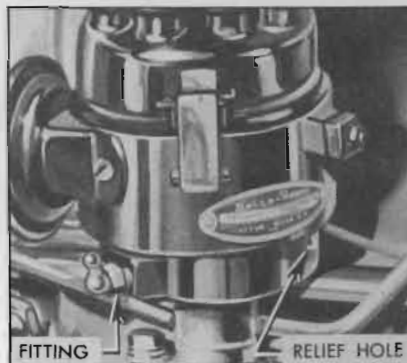

Figure 1-4—Distributor Shaft Lubrication
7. *Distributor.* Lubricate shaft with chassis lubricant through fitting on housing; the proper amount of lubricant is indicated by lubricant emerging from relief hole in front of distributor housing in a continuous unbroken stream. See figure 1-4.